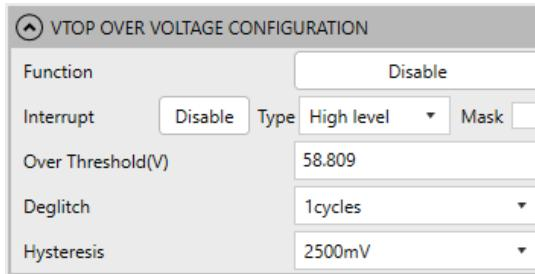

Figure 29: VTOP Over-Voltage Configuration
21. Figure 29 shows the VTOP Over-Voltage Configuration settings in the GUI.